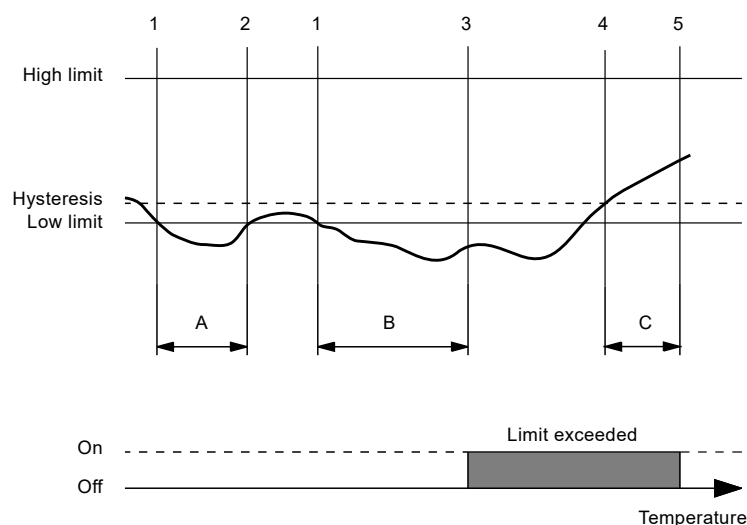

Fig. 125 Example of low limit exceeded
These are monitoring functions offering information, warning, alarm, or change of operating mode when a low or high limit is exceeded. See fig. 125.
The detection delay timer starts when a limit is exceeded (1). See fig. 125.
- A: If the limit is no longer exceeded (2) when the detection time expires, the timer is reset.
- B: If the limit is still exceeded (3) when the detection time expires, the output of the detector will change to "Limit exceeded". The reset delay timer starts when the detector output is "Limit exceeded" and the limit is no longer exceeded, using hysteresis (4).
- C: When the delay time has expired (5), the detector output changes to "Limit not exceeded".